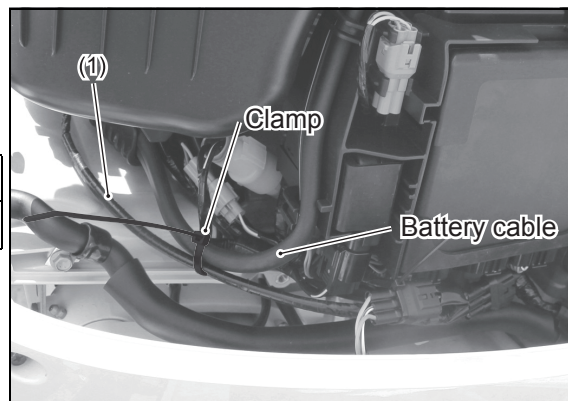

Fig. 4
7. Fix the engine adapter wire (1) to the lower side of the battery cable using the clamp as shown in Fig. 4.